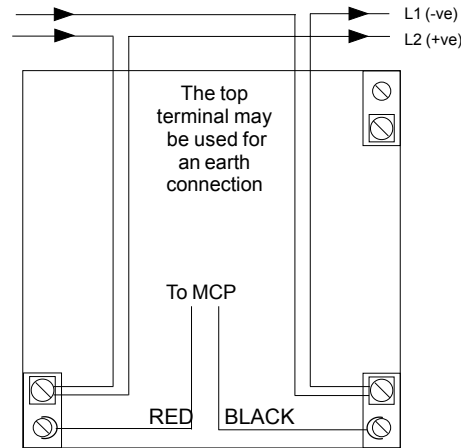

Fig 2 Surface Mount Connection Diagram
2. Run the cables from the Discovery loop into the box and connect them as shown in Fig 2. Ensure that earth continuity is maintained.
5. Connect all loop cables as shown in Fig. 2 and secondary switch cables as required and secure the call point to the back-box.